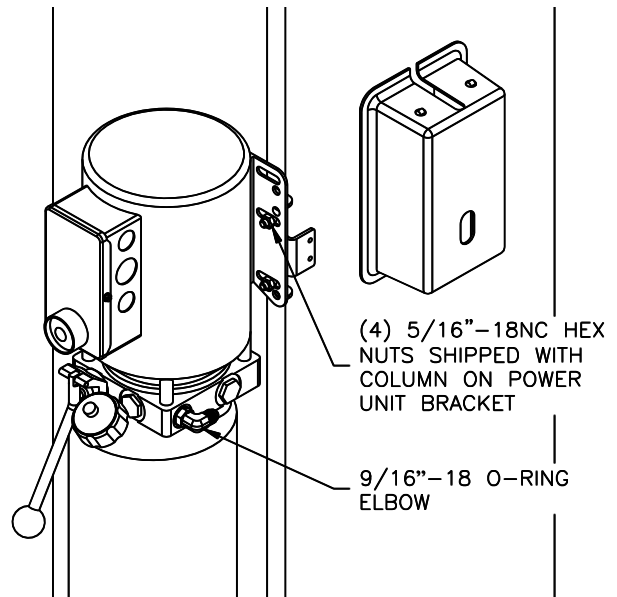

Fig. 11 – Power Unit Mounting
31) Mount Power Unit to power column as shown in Fig 11. The mounting hardware, (4) 5/16"-18NC hex nuts, are pre-installed on power unit mounting bracket.
32) Install 9/16"-18 O-ring elbow (in hardware box) into power unit, Fig. 11. **CAUTION** do not damage rubber O-ring.